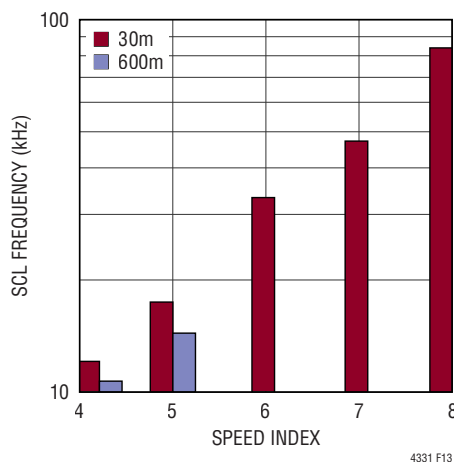

Figure 13. SCL Frequency Range when the I²C Master Ignores Slave SCL Low Stretching
- The LTC4331 relies on SCL clock-stretching to account for link and remote bus latencies. Using a local master, either hardware or software based, that fully supports clock-stretching is highly recommended for best performance. Alternately, the SCL frequency can also be reduced such that the LTC4331's SCL configured low time and remote response time is less than the master's programmed SCL low time. The total clock-stretching time of the local LTC4331 I²C slave device depends on SPEED1 and SPEED2 pin settings and remote I²C Slave device timing requirements. This is not recommended. See Figure 13.